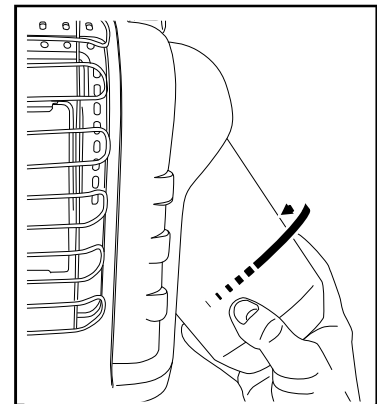

Figure 2: Attach fuel tank
- Open the right side door, swivel regulator outward for easy tank installation. Screw 1 lb. disposable LP-gas supply cylinder clockwise (from bottom) into portable heater until hand-tight; see Figure 2. DO NOT use thread sealant on this connection.